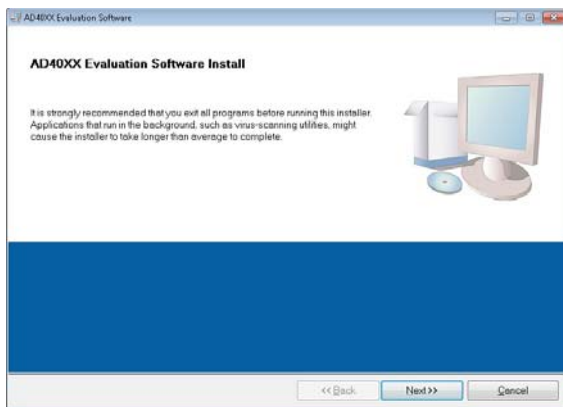

Figure 3. **AD40XX Evaluation Software Install Window**
1. Launch the evaluation board software installation by clicking the **setup.exe** file. The software installation window opens, as shown in Figure 3.